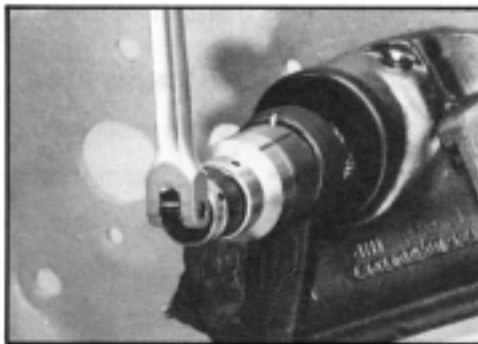
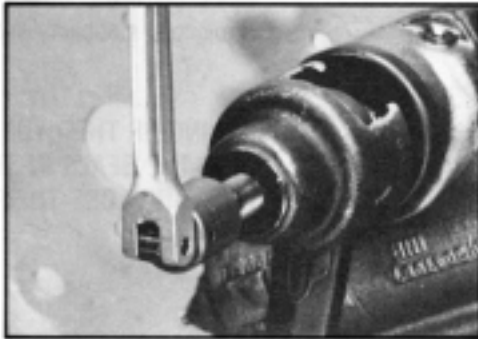

Figure 4
Figure 6
- 1.1 If a leak is detected in the trunion cover area, you can remove the trunion cover on many installations, to gain access to the sector shaft seal package, while the steering gear is on the vehicle. First check the radial position of the pitman arm to the sector shaft (51) and add timing marks to the pitman arm and shaft if necessary to insure correct alignment at reassembly. Remove the sector shaft nut (65) and lockwasher (64) or the pitman arm pinch bolt and nut assembly. SEE FIGURES 4 OR 5. Remove the pitman arm from the sector shaft using a suitable puller as required. SEE FIGURES 6 OR 7.